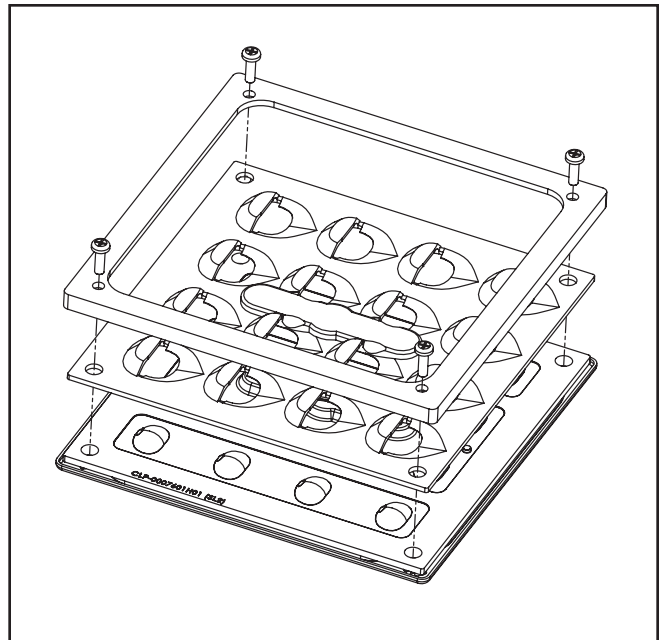

Figure 1.
2. Place the light shield over the light square as shown. FIG. 1